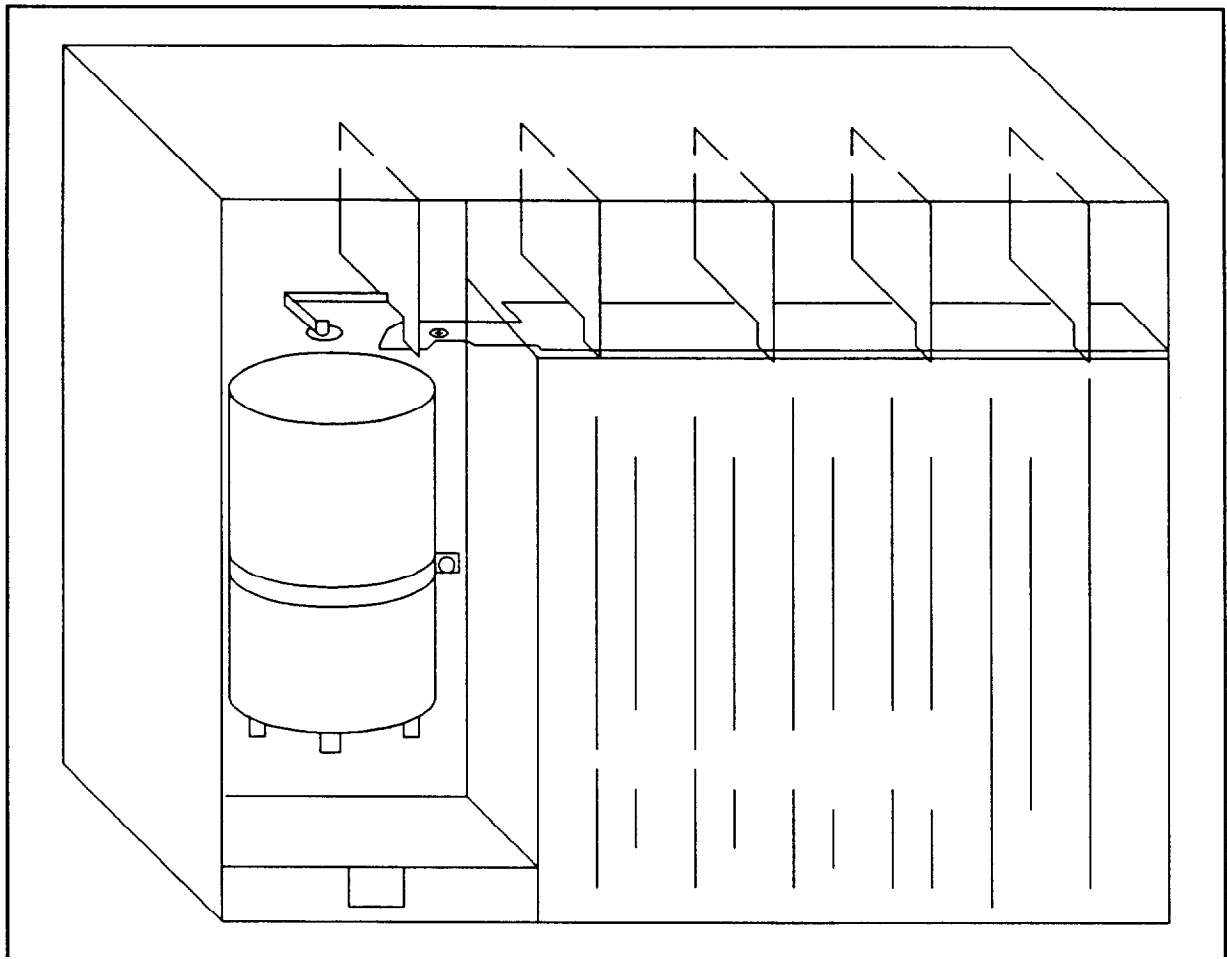
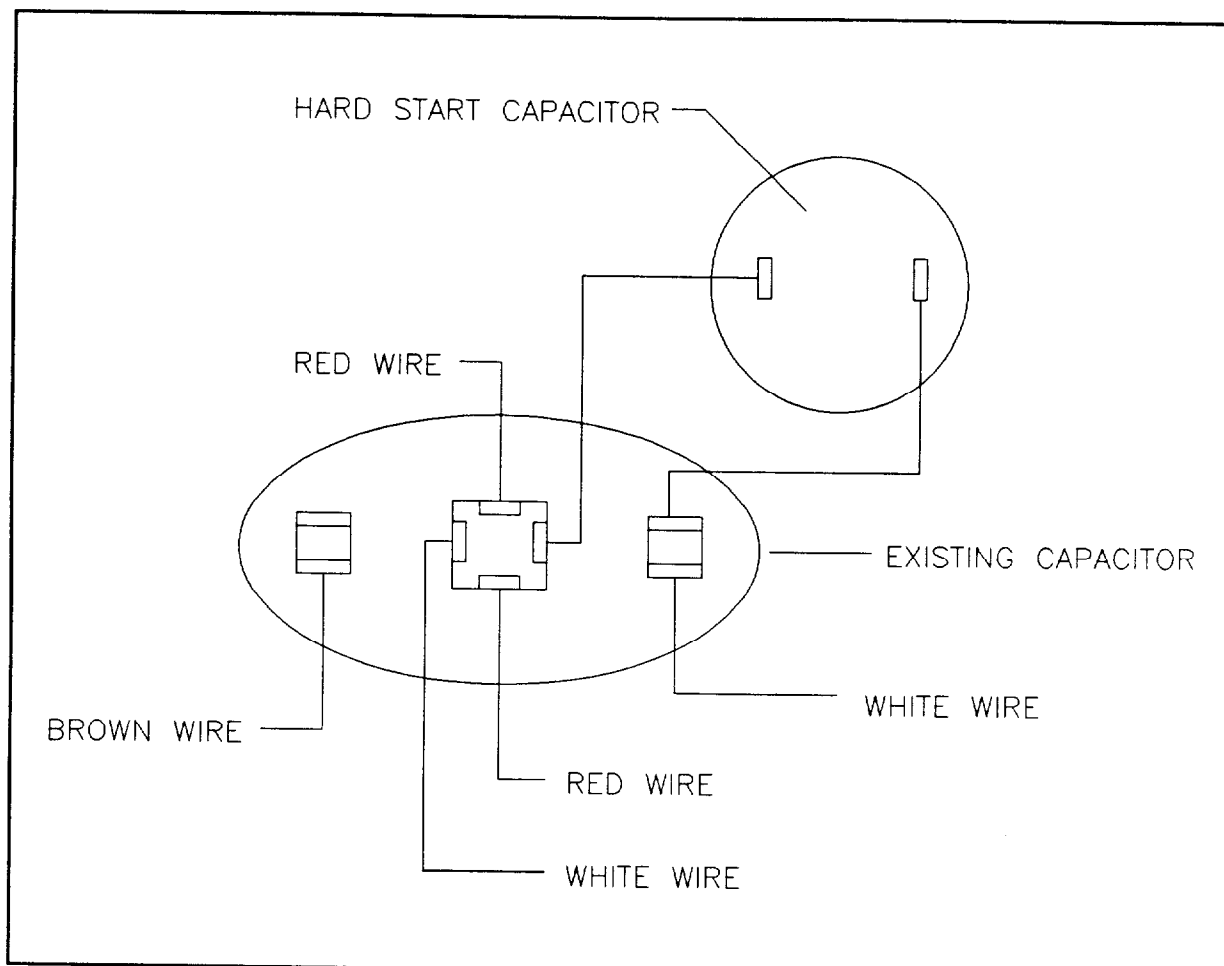

Figure 2 Air Conditioner with inner cover plate removed showing starting capacitor.
Figure 3 Connection of Hard Start Capacitor to existing Capacitor.
11. Refer to figure 2 and locate the air conditioner capacitor mounted upside down behind the control panel. It has three terminals, one with a brown wire, one with two red and one white wires, and one with a single white wire. See figure 3.
12. Connect one lead of the hard start unit to the single white wire terminal on the air conditioner capacitor. Connect the other lead of the hard start unit to the two red and one white wire terminal. See figure 3.